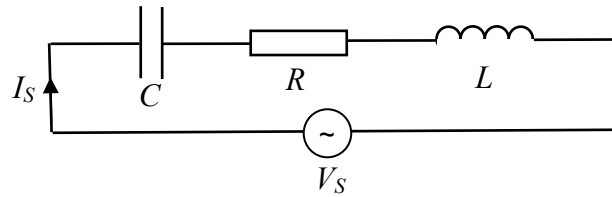

Figure 2.1
- a. An inductance, L , capacitance, C , and resistance, R , are connected to form a series resonant circuit as shown in Figure 2.1.
- (i) Work out the impedance of the circuit shown in Figure 2.1 and hence show that the resonant frequency of the circuit, f_r , is: